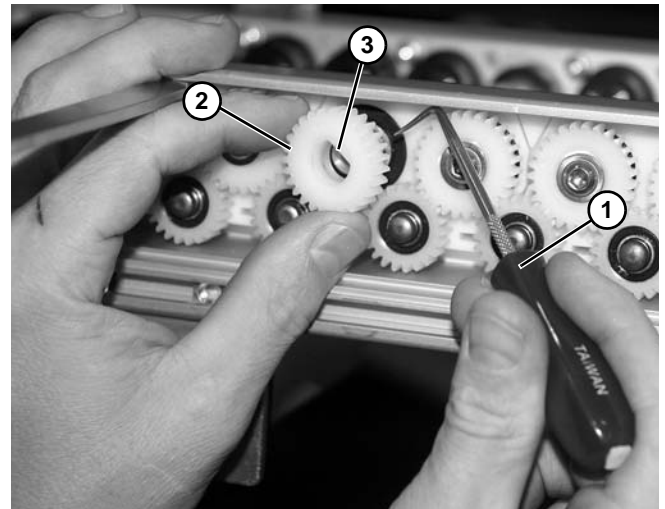

Figure 36
4. Use a small pick (Figure 36, item 1) to pry gear (Figure 36, item 2) from roller shaft. Make note of the notches (Figure 36, item 3) in the gear and roller shaft.